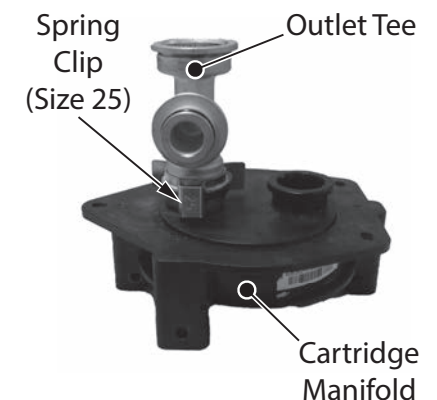

Figure 249 - Remove spring clip from outlet tee and cartridge manifold
- 17** Remove the small spring clip (size 25) securing outlet tee to cartridge manifold as shown in Figure 249. Place spring clip aside in a safe place for reinstallation. Separate outlet tee from cartridge manifold.